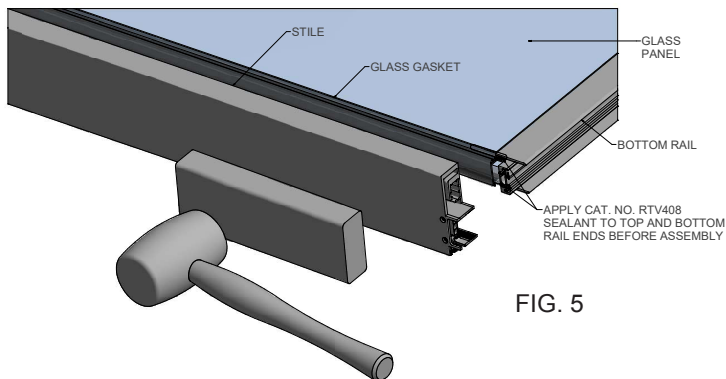

FIG. 5
6. **Apply Cat. No. RTV408** sealant to the ends of the bottom rail. (FIG. 5)